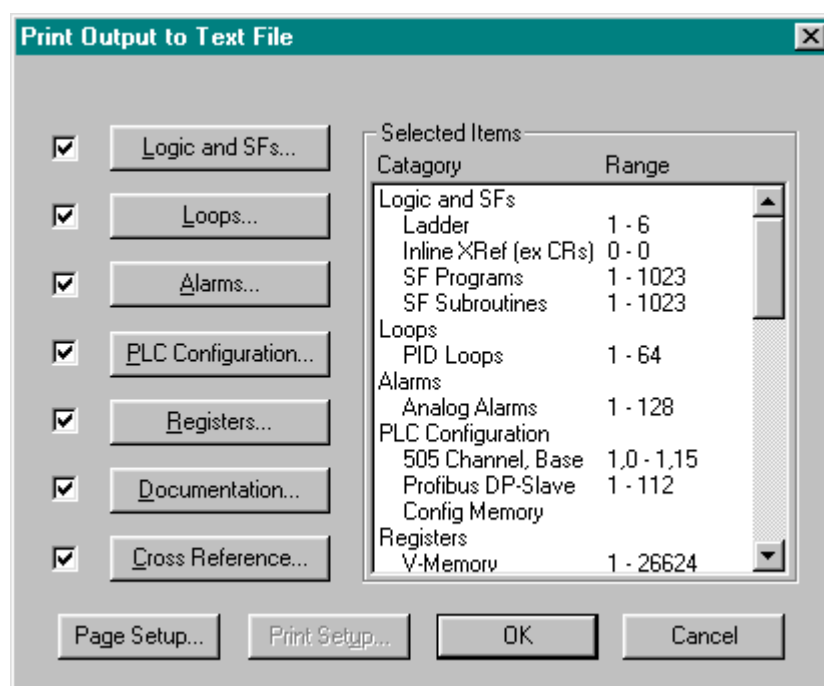

Figure 3.19b
1. To print to a text file select Output To Text File from the File menu. The **Result:** The Print Output to Text File dialog box appears (Figure 3.19b). *See Printing Logic Programs* for dialog box selections.